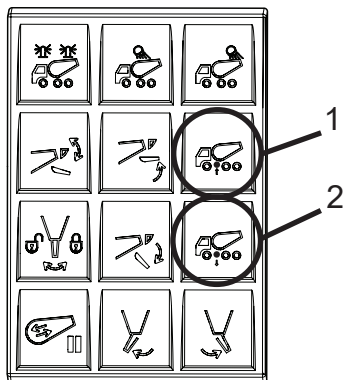

Figure 142
Auxiliary axles use UP/DOWN buttons (labeled PUSHER) to control the lower and lift function. The UP/DOWN buttons are located on the digital control display in the cab (Figure 142).
2. Press the Pusher Axle function button (UP button is Item 1, and DOWN button is Item 2) on the standard in-cab keypad (Figure 142).